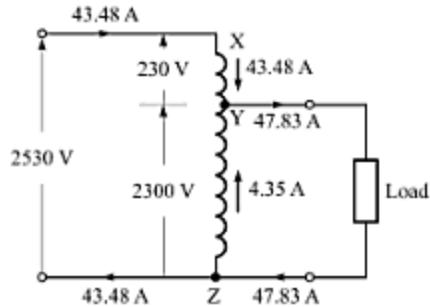

Fig. 13.26 A two-winding transformer connected as autotransformer.
A single-phase, 10-kVA, 2300-V/230-V, 50-Hz transformer is connected as an autotransformer with LT winding in series with the HT winding as shown in Fig. 13.26. The autotransformer is excited from a 2530-V source, and it is fully loaded such that the rated currents of the windings are not exceeded. Determine (a) the current distribution in the windings, (b) the kVA output, (c) the volt-amperes transferred conductively and inductively from the input to the output, and (d) the saving in copper as compared to the two-winding transformer for the same output.
- (a) The autotransformer can supply a load current  $I_2 = 43.48 + 4.35 = 47.83 \text{ A}$  at 2300 V, as shown in Fig. 13.26. The input current  $I_1 = 43.48 \text{ A}$ . The current distribution is shown in the figure.